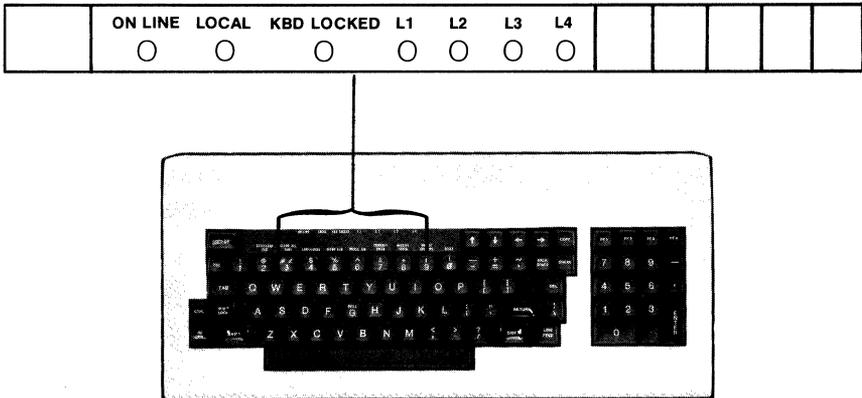

Figure 3-2
2. LED Indicators (See Figure 3-2)